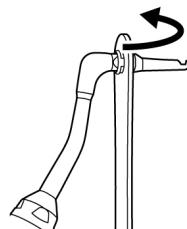

Fig. 13
2. Remove the nozzle tip using the nozzle tip remover (Fig. 13).